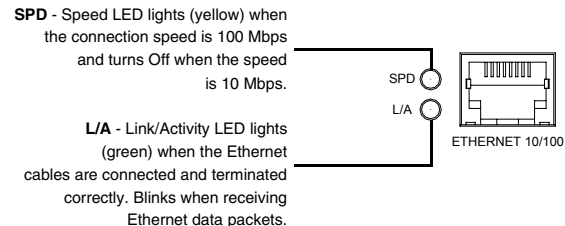

FIG. 2 Ethernet LEDs
Rear Panel Connectors (Cont.):	<ul style="list-style-type: none"> ETHERNET 10/100: RJ-45 port provides 10/100 Mbps network communication and PoE. LEDs show communication activity, connection status, speeds, and mode information (FIG. 2). AUDIO R/L: Two RCA connectors support line-level stereo input for analog stereo signals. RS-232/422/485: 9-pin (DB9) port supports RS-232/RS-422/RS-485 data output including: <ul style="list-style-type: none"> 300, 600, 1,200, 2,400, 4,800, 9,600, 19,200, 38,400, and 115,200 Baud rates 8 or 9 Data bits 1 or 2 Stop bits Even, Odd, Mark, Space, and None parity settings CTS and RTS handshaking XON/XOFF handshaking MIC: 1/8" mini-stereo input jack. IR/Serial: 2-pin 3.5mm mini-Phoenix (male) captive-wire connector provides IR/Serial control output by generating IR with the use of an IR emitter (while in IR mode). This port supports high-frequency carriers of up to 1.142 MHz and can also generate IR with no carrier frequency. I/O: Two digital 4-channel binary I/O ports for contact closure (accepts a 4-pin 3.5mm mini-Phoenix captive-wire connector). Each input is capable of voltage sensing. Input format is software selectable with interactive power sensing for IR ports.
The MAX-CSE uses a standard CAT5 Ethernet cable to provide 10/100 network connectivity to the network (FIG. 2). LEDs indicate communication activity, connection status, speeds, and mode information.
- If the L/A LED (FIG. 2) is not On or blinking, check your cables and connectors.